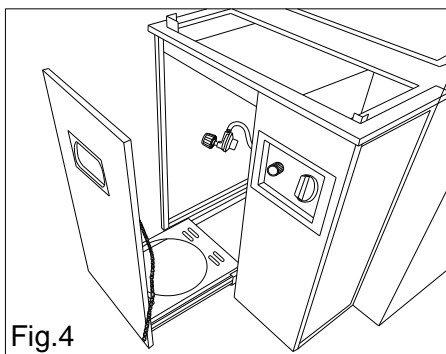

Fig.4
- 1- Open the door, put the chain and control valve outside. See Fig 4.